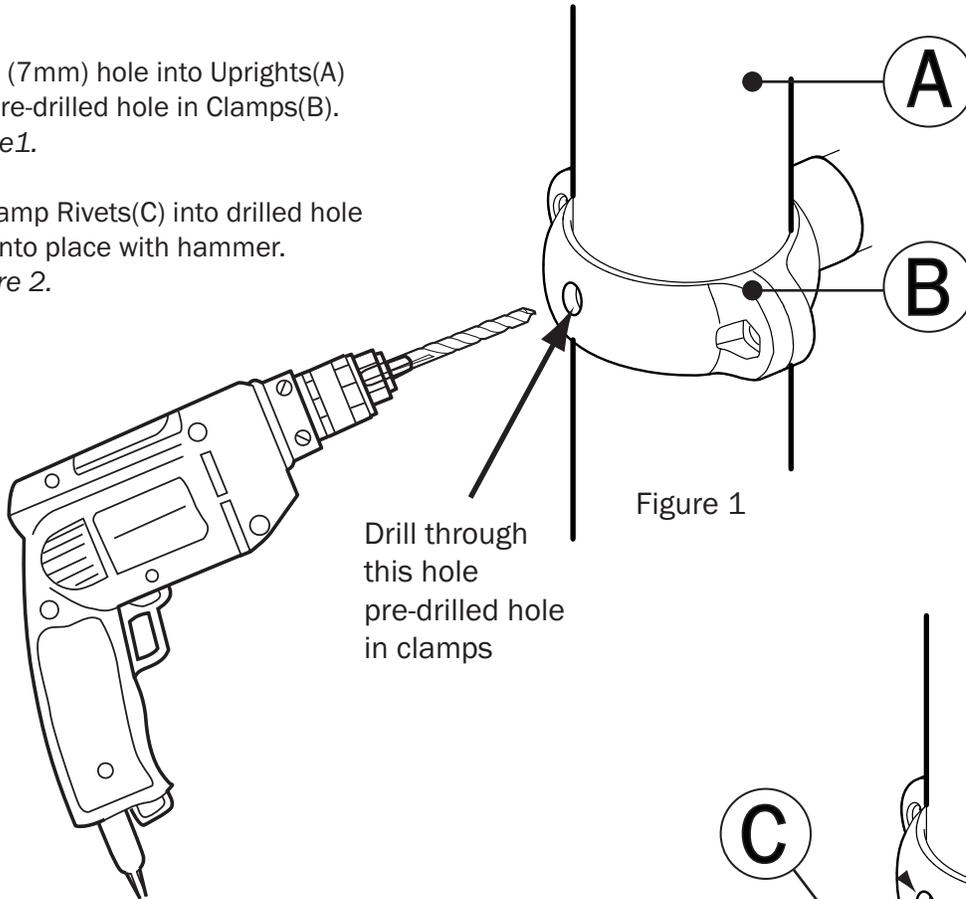

Figure 1
1. Lower Roof(A) onto Uprights.
2. Centered horizontally with Upright, measure 1"(25mm) up from bottom of Roof(A) and drill 1/8" pilot hole through Roof and into Upright. See Figure 1.
3. Secure Roof(A) to Uprights with (4) Self-tapping Screws(B). See Figure 1.
4. Repeat Steps 2 and 3 for remaining (3) Self-tapping Screws(B).
1. Drill 1/4" (7mm) hole into Uprights(A) through pre-drilled hole in Clamps(B). See Figure 1.